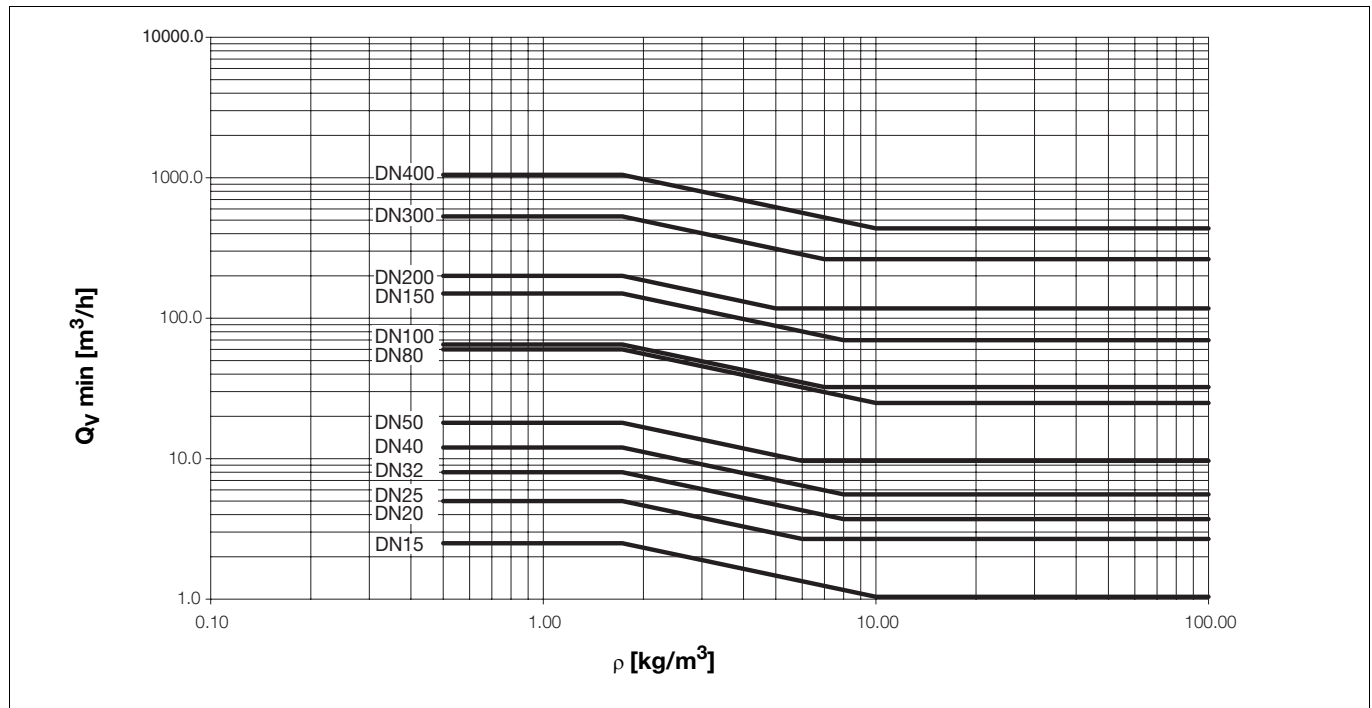

Fig. 20: Minimum Flowrate, Gases/Steam as a Function of the Fluid Density
- Flow range start for ρ = 7.4 kg/m³ (from Fig. 20):